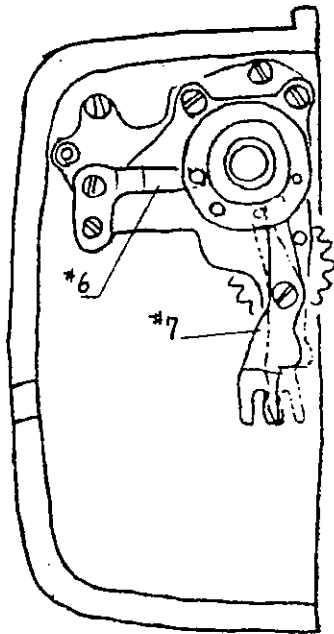

fig. 1
1. Excessively tight gearing with Film Back Gear due to deformation of Pin #2 of Body F Film Advance Conveyor Lever (Upper) #1 (See Fig. 1).
Check whether the 12 and 24 exposure switch lever clicks in properly (See Fig. 1)-